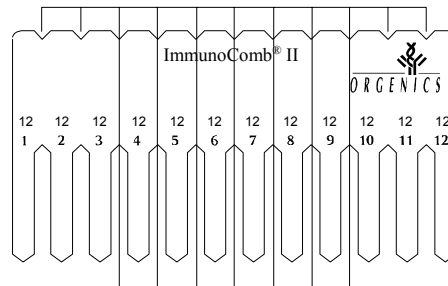

Figure 4. Breaking the Card
- Bend and break the Card vertically or cut with scissors (Figure 4) to detach the required number of teeth (No. of tests + 2 controls).